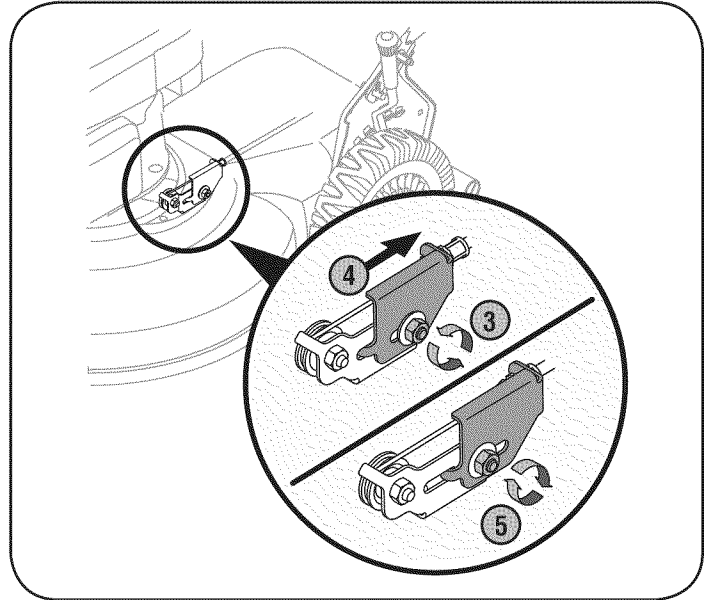

Figure 17
Periodic adjustment of the six speed shift cable may be necessary due to normal wear on the cable. Adjustment is needed if all six speeds do not work. The adjustable cable bracket is located on the left side of the mower beside the engine. See Figure 17.
3. Loosen hex nut which secures the adjustable cable bracket. See Figure 17.